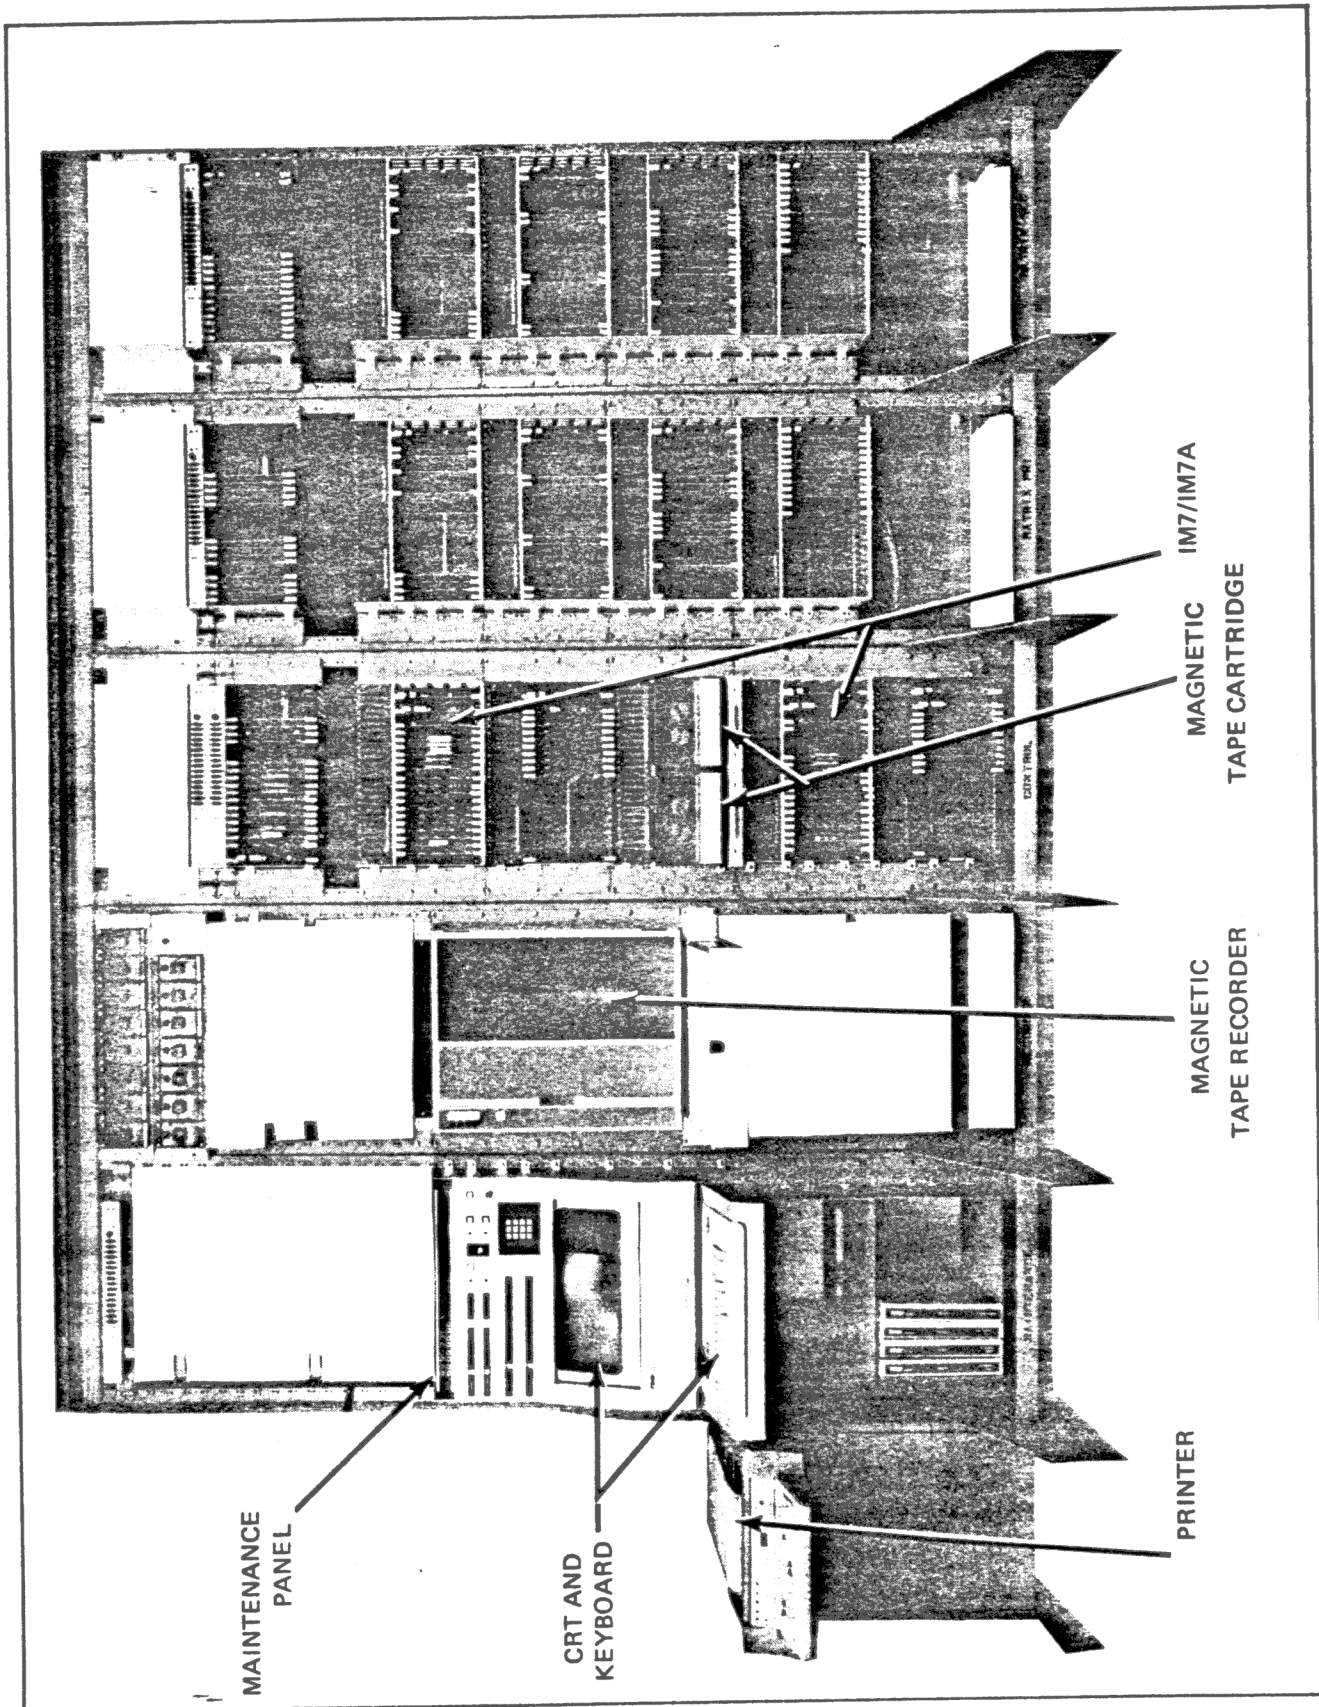

Figure 1. Operator Equipment Locations, Integrated Transmission and Switching (ITS) System
2.01 Figure 1 identifies the assemblies of the Integrated Transmission and Switching (ITS) System that contain controls and/or indicators that are used during normal system operation. The assemblies are: